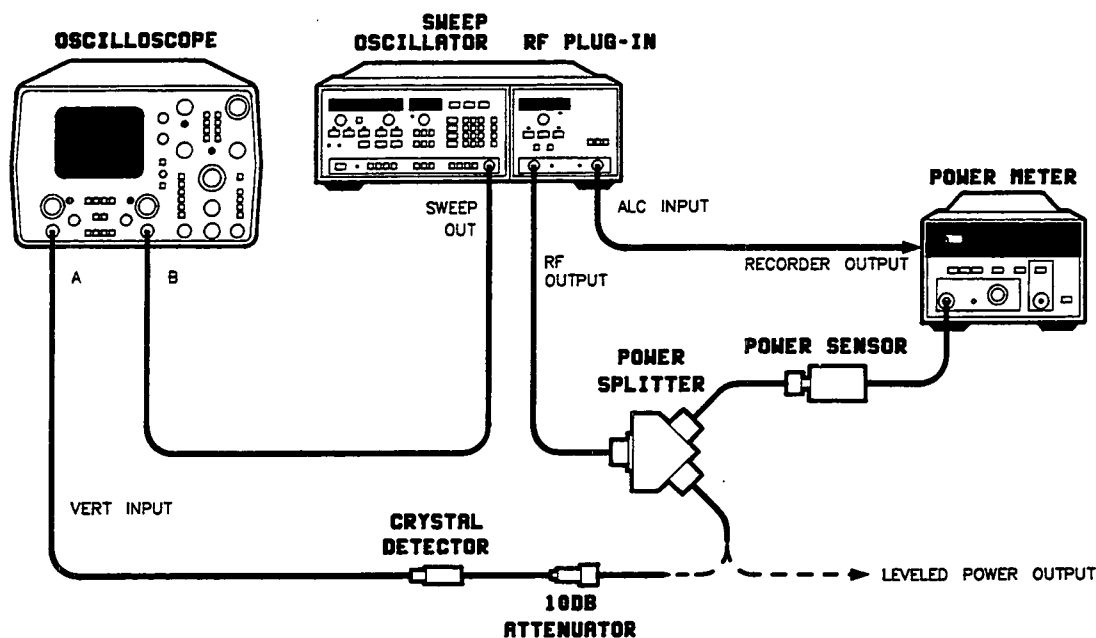

Figure 3-10. External Power Meter Leveling Set Up
To use leveled RF output power for testing external equipment, make the connection at the point marked leveled power output, in Figure 3-10.
2. Connect the equipment as shown in Figure 3-10. Turn the instruments on and let them warm up for at least one hour.